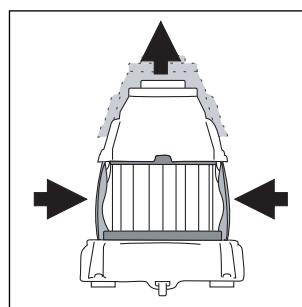

Fig. 25
- Press lightly on the two tabs and lift the top part (fig.25).